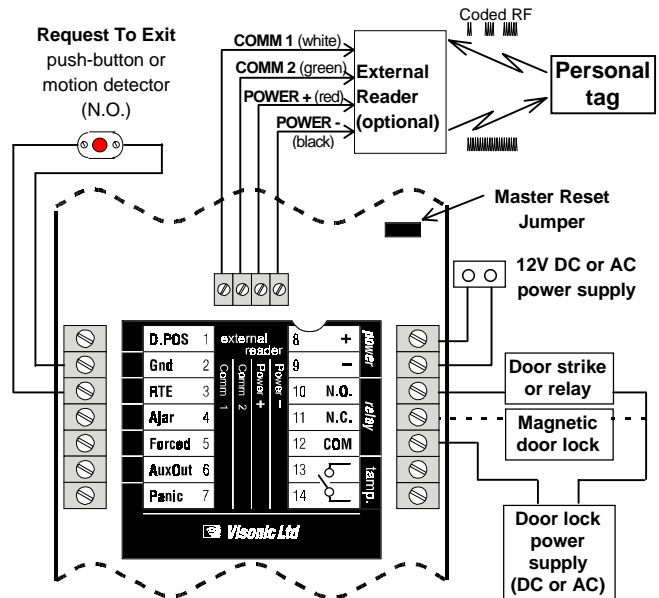

Figure 5 - Wiring Diagram for Access Control
The connections to the TIAB terminal block are shown in fig. 5.
- A. Remove the Master Reset Jumper (fig. 5). The TIAB buzzer will start beeping.